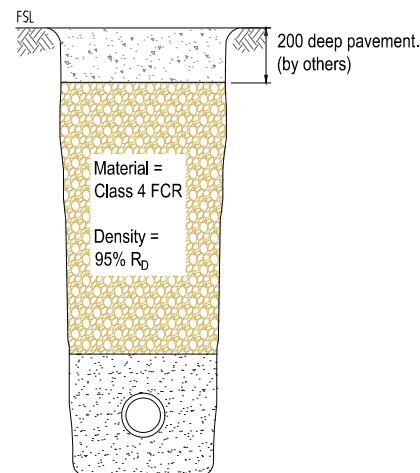

Figure 1: Type F Backfill
- Backfill is to be Type F and installed as per Figure 1